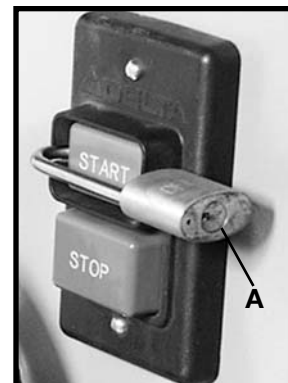

Fig. 48A
IMPORTANT: When the tool is not in use, the switch should be locked in the "OFF" position using a padlock (A) Fig. 48A, with a 3/16" diameter shackle to prevent unauthorized use.